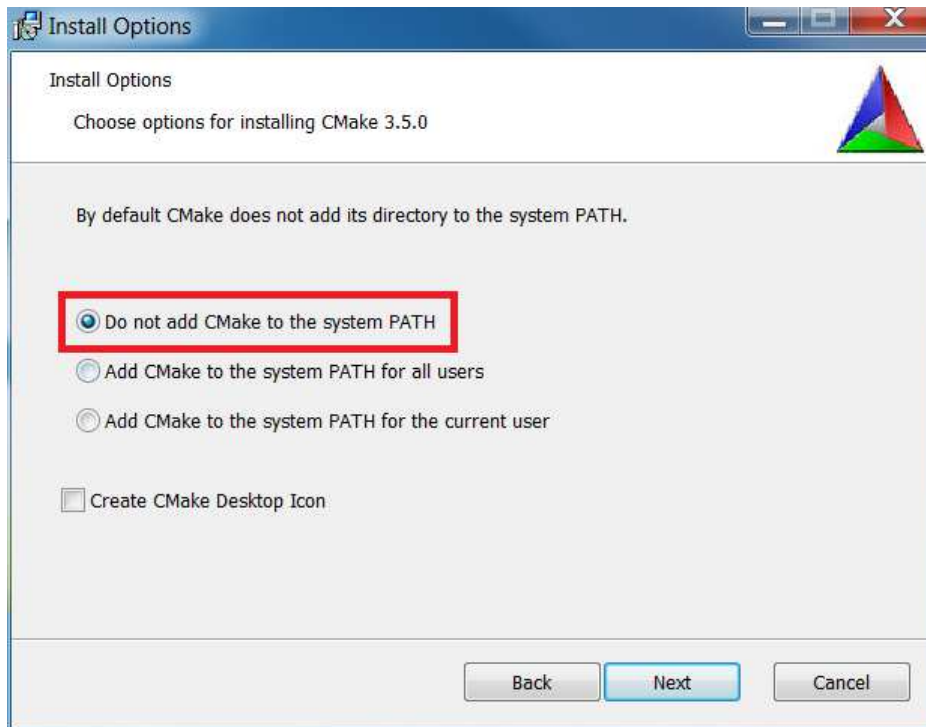

Figure 17. CMake Install Options
3. Read and accept the license agreement. In the Install Options window, select the radio button indicating “Do not add CMake to the system PATH” as shown in Figure 17.